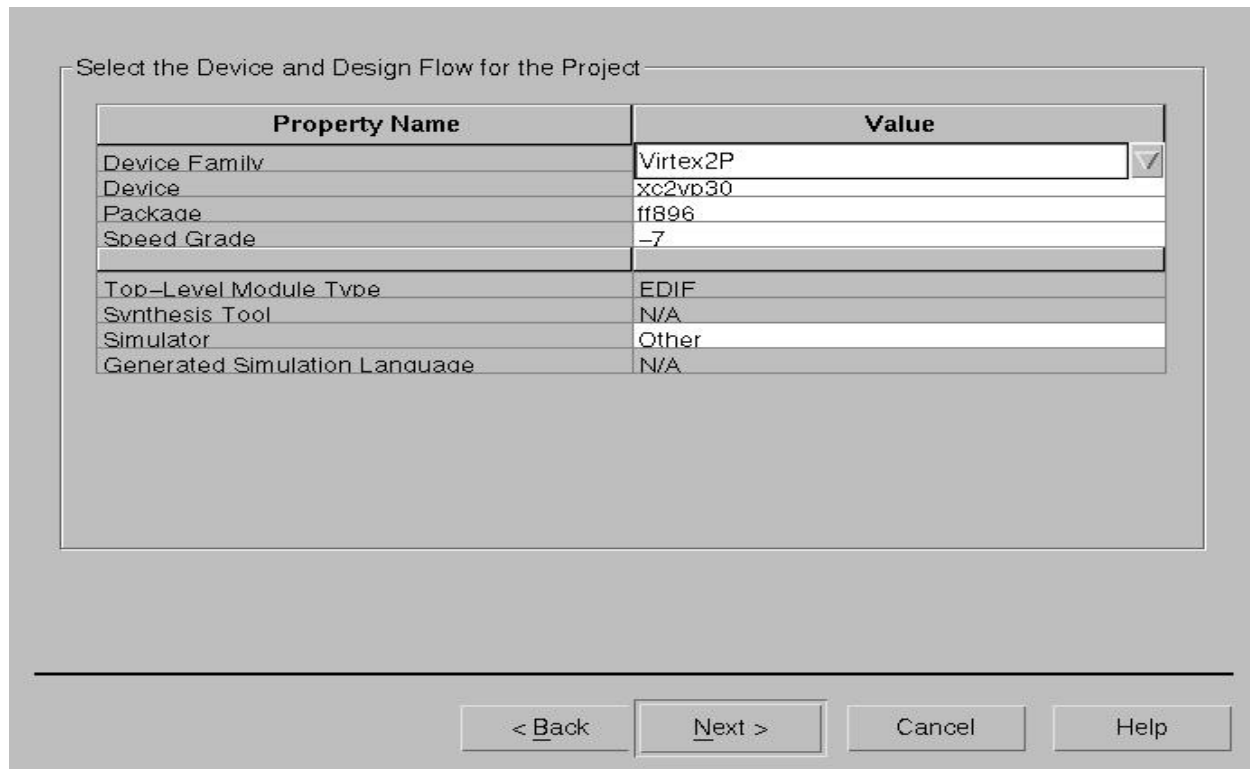

Figure 24: Specifying the Device.
(5) You must now specify which device you use to use. Refer to Figure 24 and specify the following in the form: